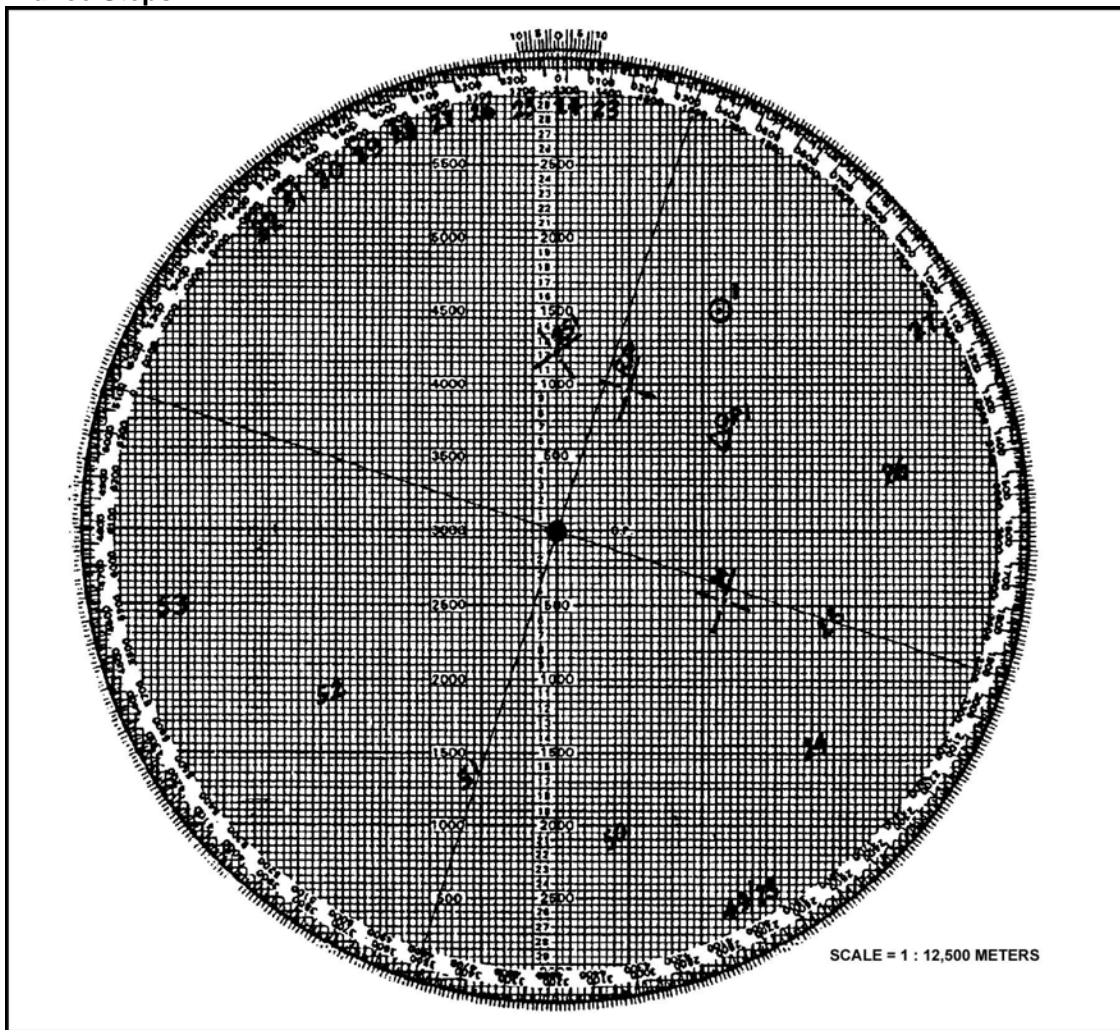

Figure 2. Plotting Target Location
- a. Index the FO's direction given in the call-for-fire (Figure 2).
- b. Plot the distance given in the call-for-fire using the edge of the computer's record. Place the corner of the computer's record on the line of the alternate range scale of the zero line of the alternate range scale of the plotting board; make a tick mark at the distance (range) given in the call-for-fire—for example, 900 meters (Figure 2). Move the computer's record to the FO's plotted position with the corner placed on the FO's plot. After making sure the edge of the computer's record is parallel to the line on the gridded base, make a plot on the disk at the tick mark on the computer's record. Circle the plot, and label it "1."
- a. Rotate the disk until the target plot is aligned with the mortar plot, which must always be toward the bottom of the plotting board (Figure 2).